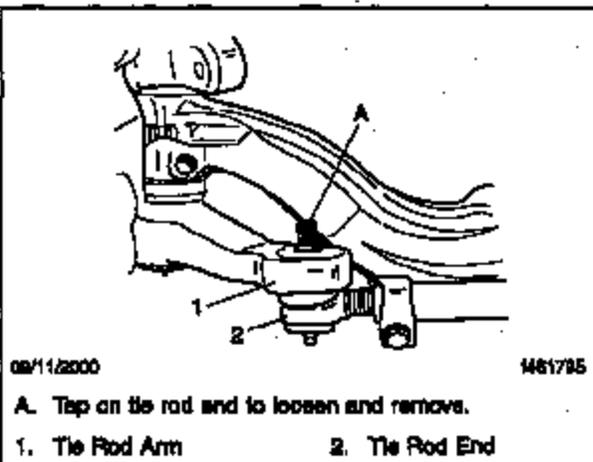

Fig. 1, Tie Rod End and Tie Rod Arm
4. If necessary, tap on the tie rod end to loosen it from the tie rod arm. See Fig. 1.